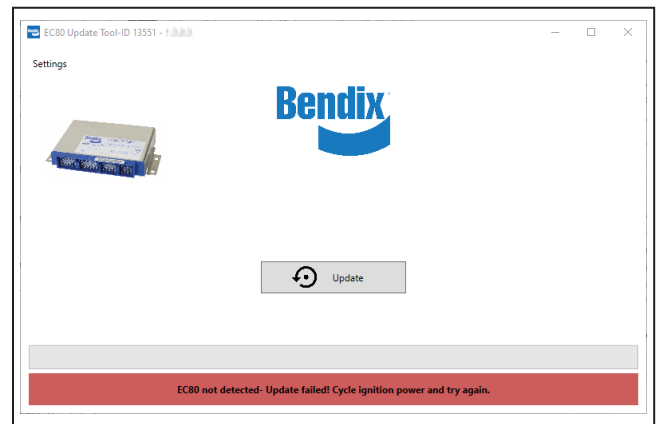

Figure 9 – ECU Not Detected
10. *Figure 9* shows the ECU is not detected. Verify the ignition power is ON and/or ensure the correct RP1210C channel is selected. Restart the update procedure from Step 1.